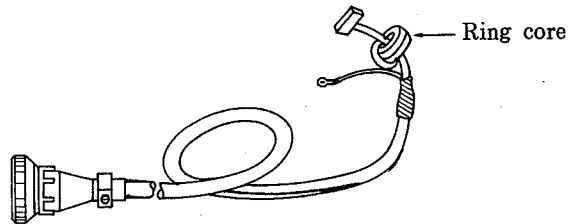

Fig.55
- (5) Remove the ring core from the IO-17SC2 cable. (See Fig.55.)